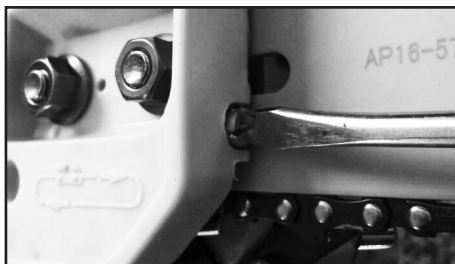
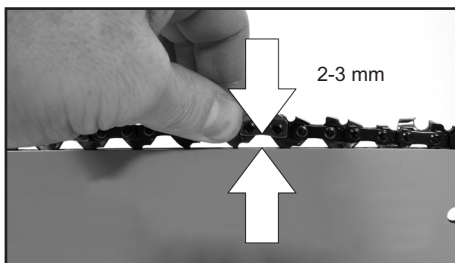

Fig. 5
Fig. 6
- Adjust the chain tension screw (Fig.5) so that if the chain is pulled down with the fingers at the centre of the bar the gap between the chain and the bar is 2 to 3 mm. (Fig.6)